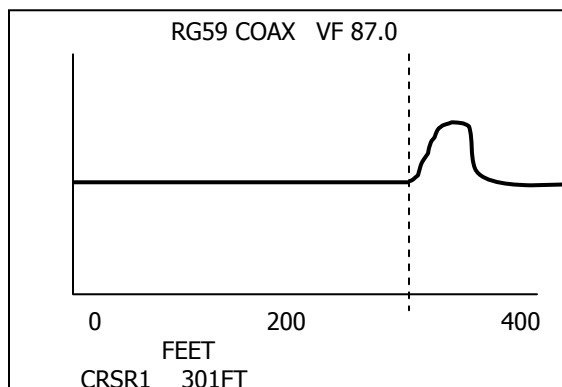
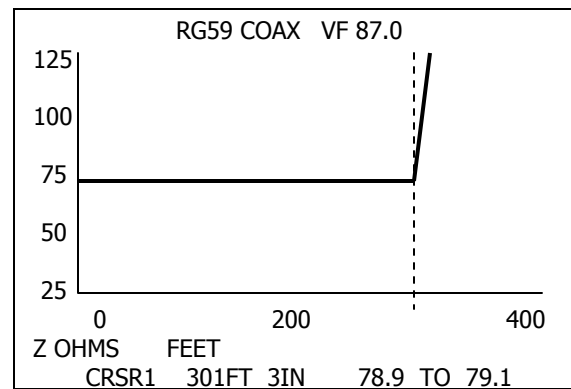
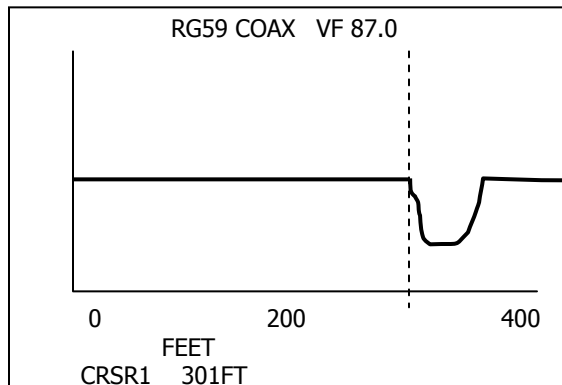

Figure 1
Figure 2
Figure 3
Figures 1 and 2 depict the electrically open end of a cable. Figure 1 depicts the end on a pulse TDR and Figure 2 depicts the same open end on a step TDR. It does not matter to a TDR or an AC signal transmitter that one of the conductors continues on in a cable. The cable's impedance (Z) has gone to infinity. On an AC signal transmission media all remaining energy will be reflected back to the source when it reaches the point where either the center conductor or shield is open.
Figures 3 and 4 depict the electrically short termination of a cable. Figure 1 depicts a pulse TDR short and Figure 2 a step TDR short. Again, the cable could be physically longer, but any point where the center conduct makes direct contact with the shield constitutes the electrical end of the cable. The impedance (Z) will go to zero Ohms.